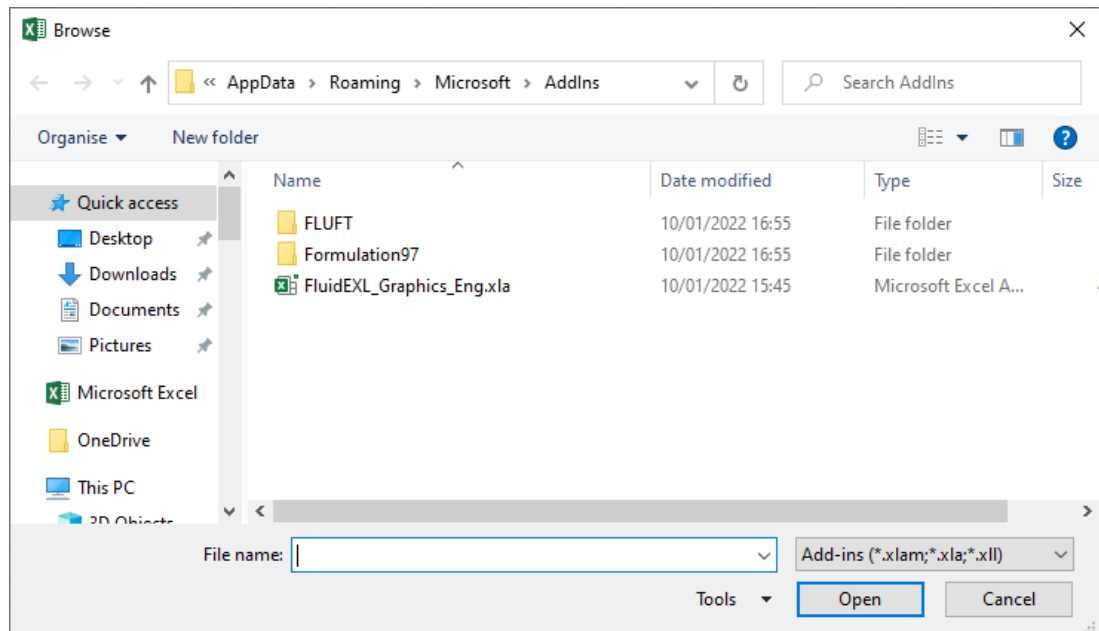

Figure 2.5: "Browse"-Window
In the upper part of the "Browse" window the correct Add-In path is displayed (see Figure 2.5). Please note that not the entire path is displayed.
- Click "FluidEXL_Graphics_Eng.xla" in this folder (see Fig. 2.5) and click "OK."